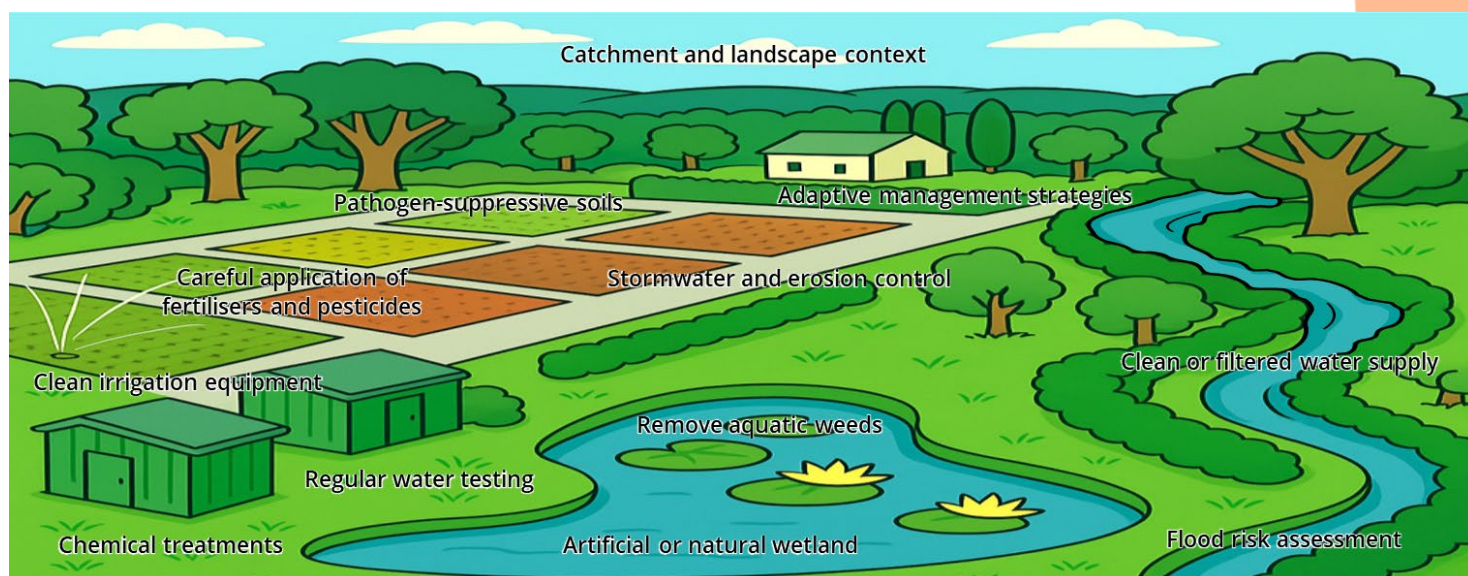

Figure 1. Examples of management considerations to maintain and improve water quality in a plant production nursery setting.
- Understand the specific attributes of your water by testing for key parameters relevant to plant health and nursery operations (**Figure 1**).
- The position of a nursery within a catchment, such as near the headwaters or outlet, affects water quality and likely storm and flood impacts (**Figure 1**).